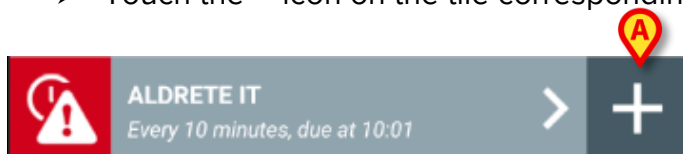

Fig 51
- Touch the **+** icon on the tile corresponding to the wanted dataset (Fig 51).